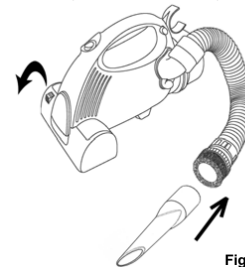

Fig. 5
- To use the flexible hose with the crevice tool, make sure that the brush is in the storage position and insert the crevice tool into the opening of the hose. (Fig. 5)